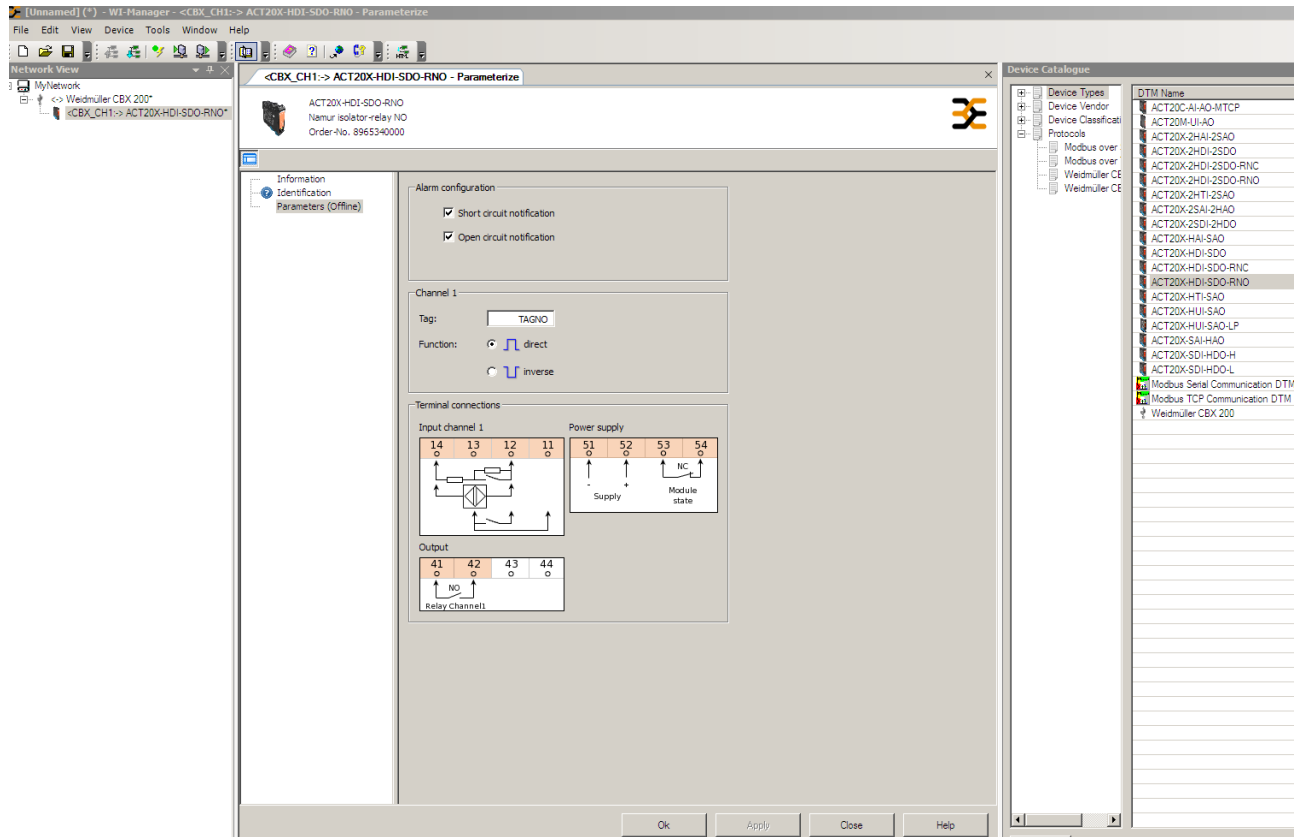

Figure 3: GUI DTM configuration (2) (example)
The parameterization according to the safety requirements is oriented towards the general using the product related DTM (Figure 2 "GUI DTM configuration (1) (example)" and Figure 3 "GUI DTM configuration (2) (example)" shows an example of a DTM).